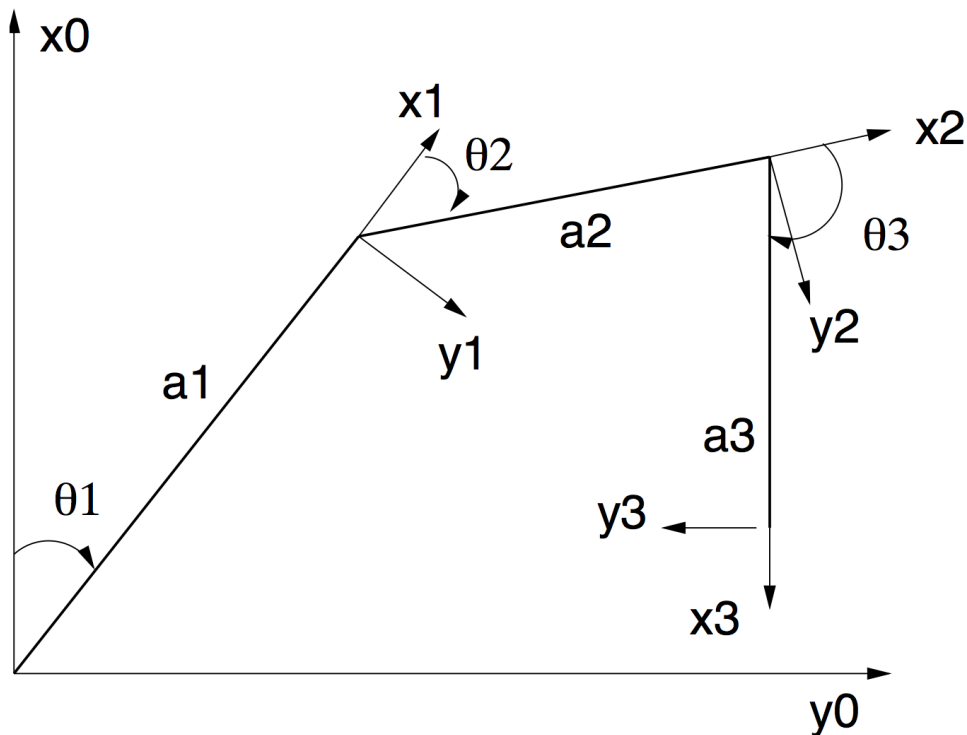

Figure 1: 3-joint planar manipulator.
Task 2.1 (5 points) Planar manipulator: Consider the planar robot manipulator shown in figure 1 with the joint angles θ_1 , θ_2 and θ_3 constrained by the following relation: $\theta_3 = 180^\circ - \theta_1 - \theta_2$.
2.1.1 (3 points): Determine the partial homogeneous transformations ${}^{i-1}A_i$, $i = 1, 2, 3$ for each of the coordinate frames shown in figure 1 and show the planar manipulator transformation ${}^0T_3 = {}^0A_1 {}^1A_2 {}^2A_3$ to be equal to